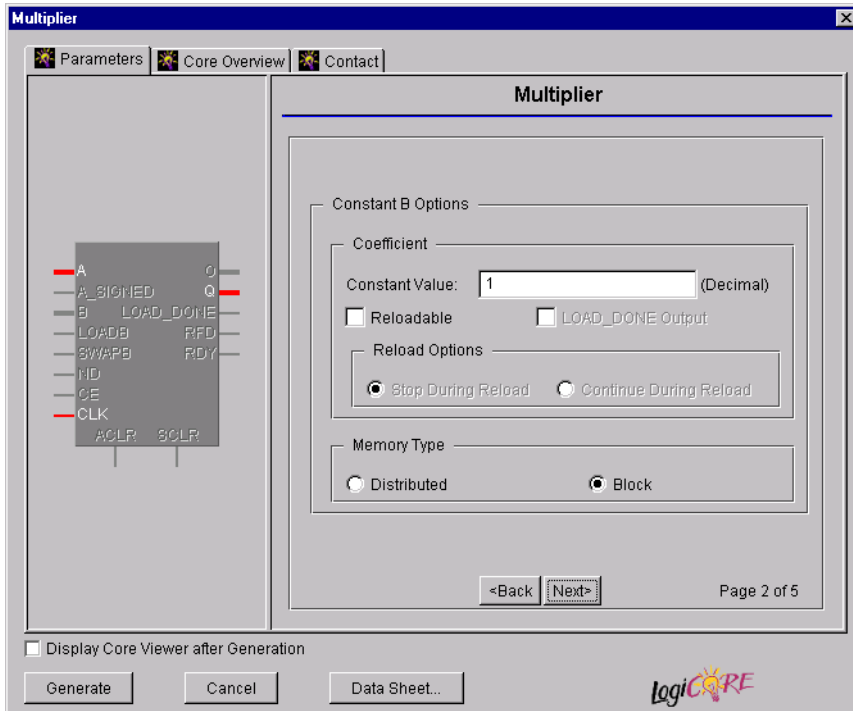
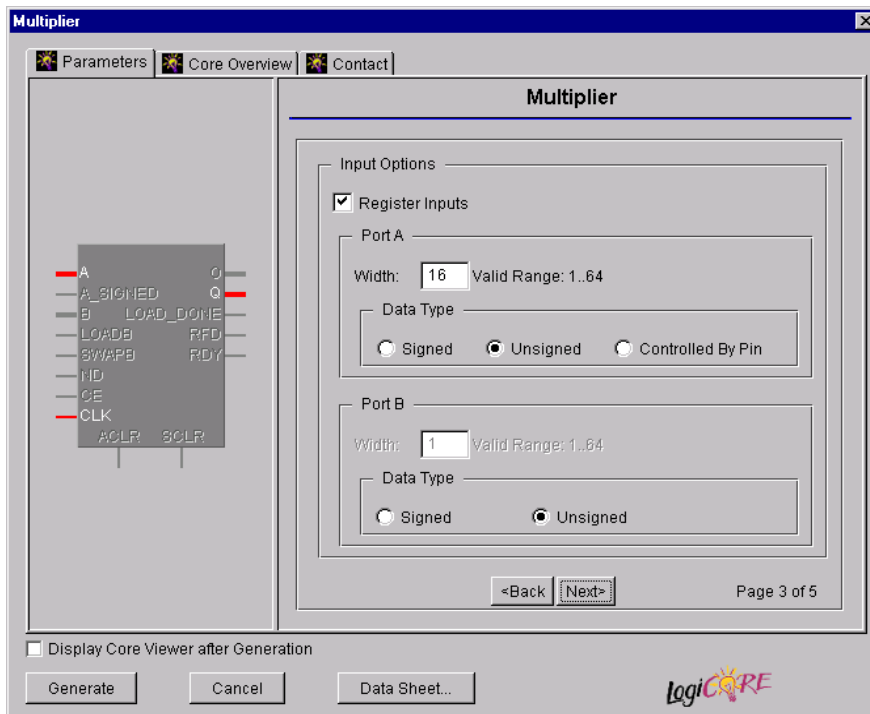

Figure 3: Constant Coefficient Parameterization Window.
Figure 4: Input Options Parameterization Screen.
- When a constant coefficient multiplier has been selected, the parameterization screen shown in Figure 3 is displayed when the Next button is clicked.
If a non constant coefficient multiplier is selected, the screen shown in Figure 3 is skipped. The screen shown in Figure 4 is displayed next.